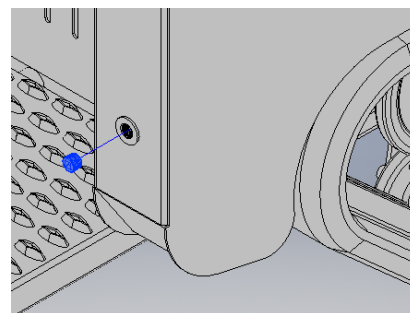

Fig 21
3. Remove the drain plug from the bottom of the hydraulic tank and allow the fluid to completely drain out. **(Fig 21)**